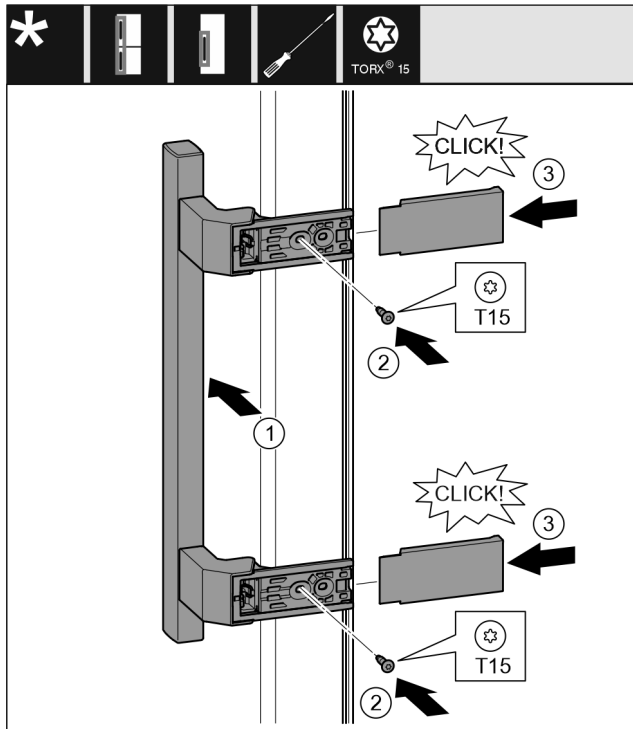

Fig. 16
- ▶ Attach the handle on the opposite side. Fig. 16 (1)
- ▶ Tighten screws with screwdriver T15. Fig. 16 (2)
- ▶ Place the covers on the side and push them on. Fig. 16 (3)